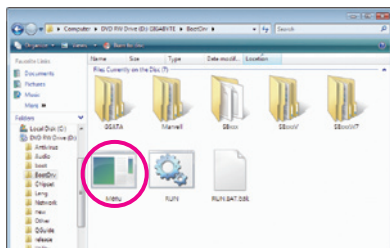
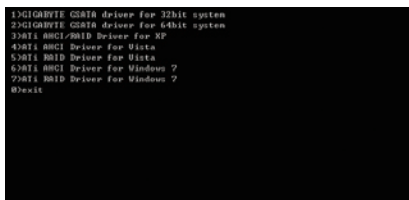

Figure 2
Figure 3
- 2: From your optical drive folder, double click the Menu.exe file in the BootDrv folder (Figure 2). A Command Prompt window will open similar to that in Figure 3.
- 3: Insert the blank formatted disk. Select the controller driver by pressing the corresponding letter from the menu and press <Enter>. For example, from the menu in Figure 3, select **3) ATi AHCI/RAID Driver for XP** for Windows XP operating system.